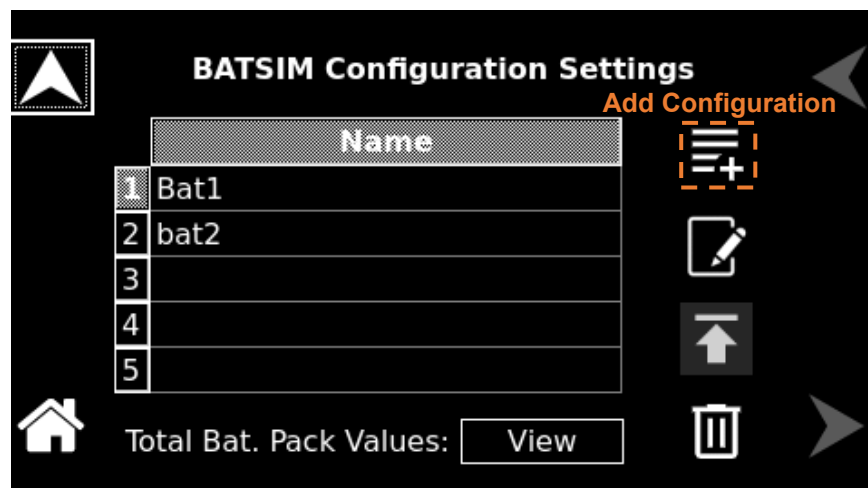

**Figure 12-15. Profile Selection**
- Open the 'BATSIM Configuration Settings' and select the 'Add Configuration' option on the right side of the screen. Refer to Figure 12-15.